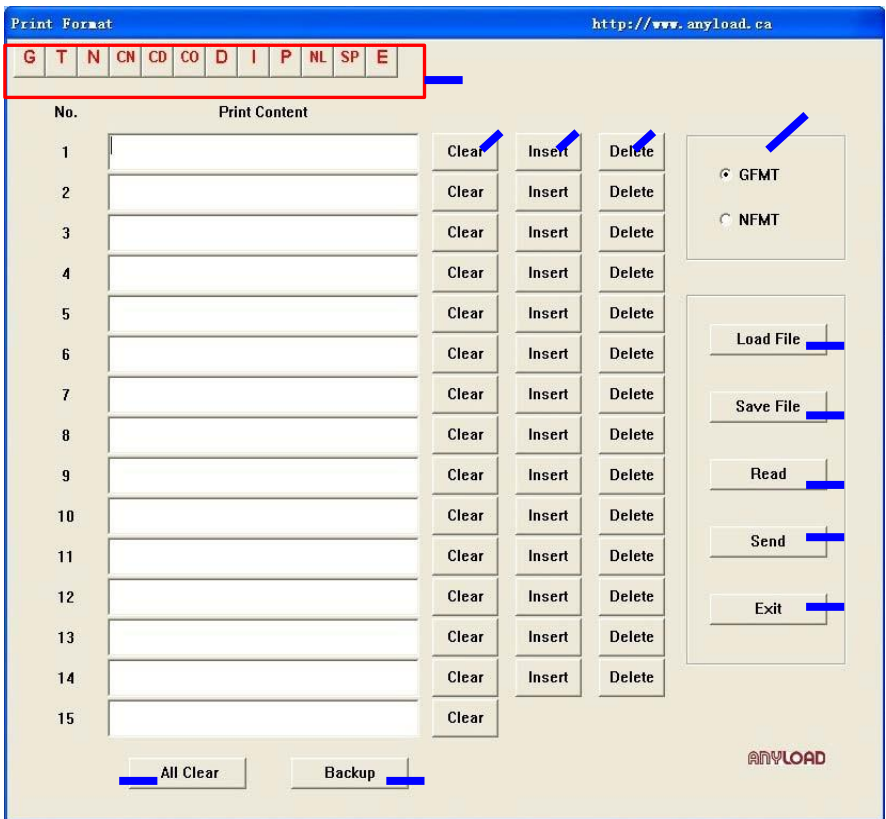

Figure 1.2.2 Set Print Format Interface
Print Format - Setting the print format. Click and will enter into the Print Format Interface (see figure 1.2.2).
1.2.2 Print Format Interface (see Figure 1.2.2)